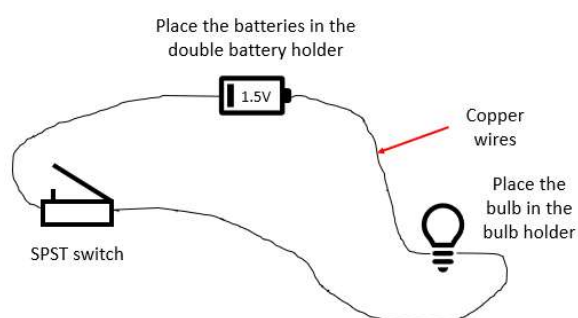

Figure 1
1. Connect the circuit as shown in Figure 1. Press the switch to check if the bulb lights up, then switch off.